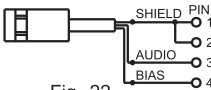

Fig. 22
2. 3-wire electret condenser microphone capsule connection. Fig. 22: